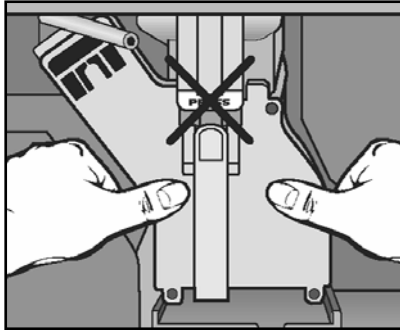

Figure 5-20: Brew Unit Installation
9. Push the brew unit in the track straight into the appliance without pressing "PRESS" until it clicks in place (refer to Figure 5-20 – Brew Unit Installation).